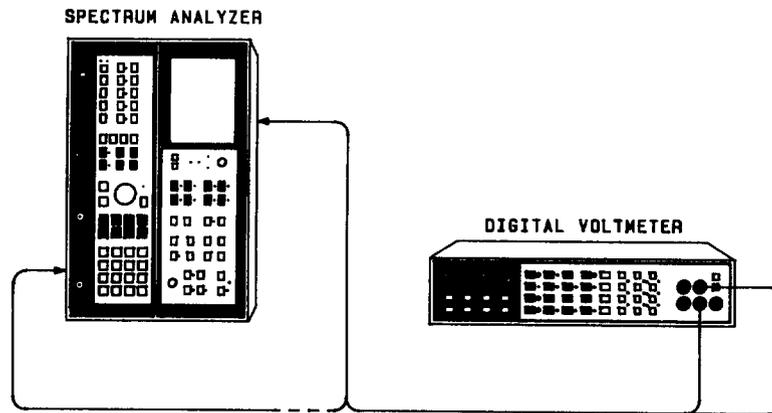

FIGURE 1. LOW VOLTAGE POWER SUPPLY ADJUSTMENTS SETUP
1. Position instrument on right side with IF-Display Section facing right, as shown in Figure 1.